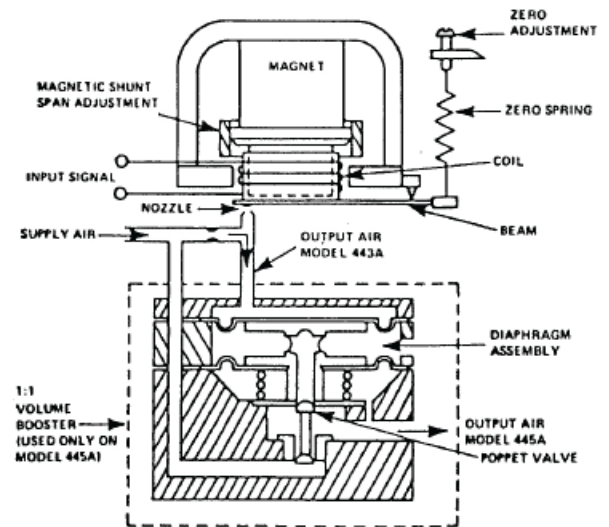

Figure 4-1. DIAGRAM OF OPERATION
4.1 Principle of Operation (See Figure 4.1)